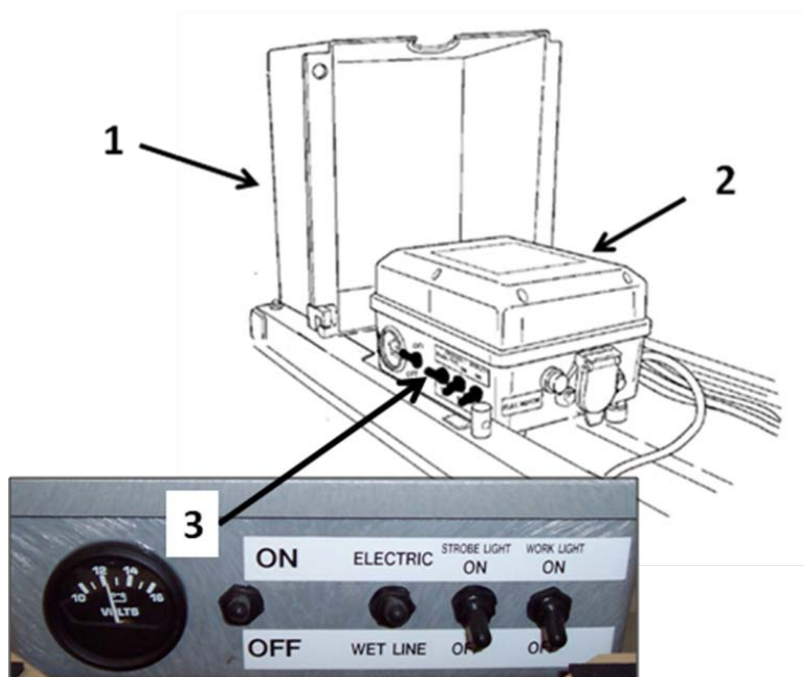

Figure 1 – Electric Control Box and Cover
2. Open Control Box Cover (1) and make sure that Control Box (2) has first switch "ON" and second switch set to "Wetline". (figure 1)